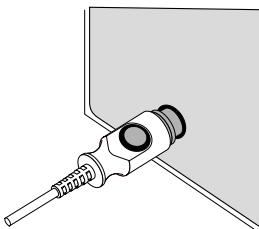

Figure 5. Cable connect to EFM
3. Connect the reusable INTRAN® PLUS cable to the uterine activity port of the fetal monitor (Figure 5).